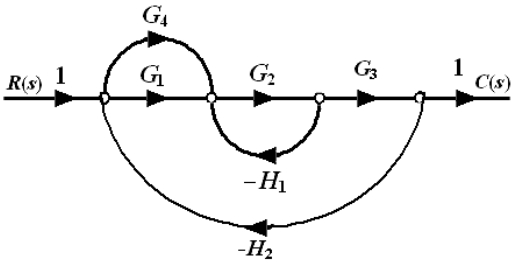

Figure 2, Q.2 (c) (OR)
- (c) Obtain overall transmittance of the system whose signal flow graph is shown in Figure 2 by using Masson's gain formula. **07**